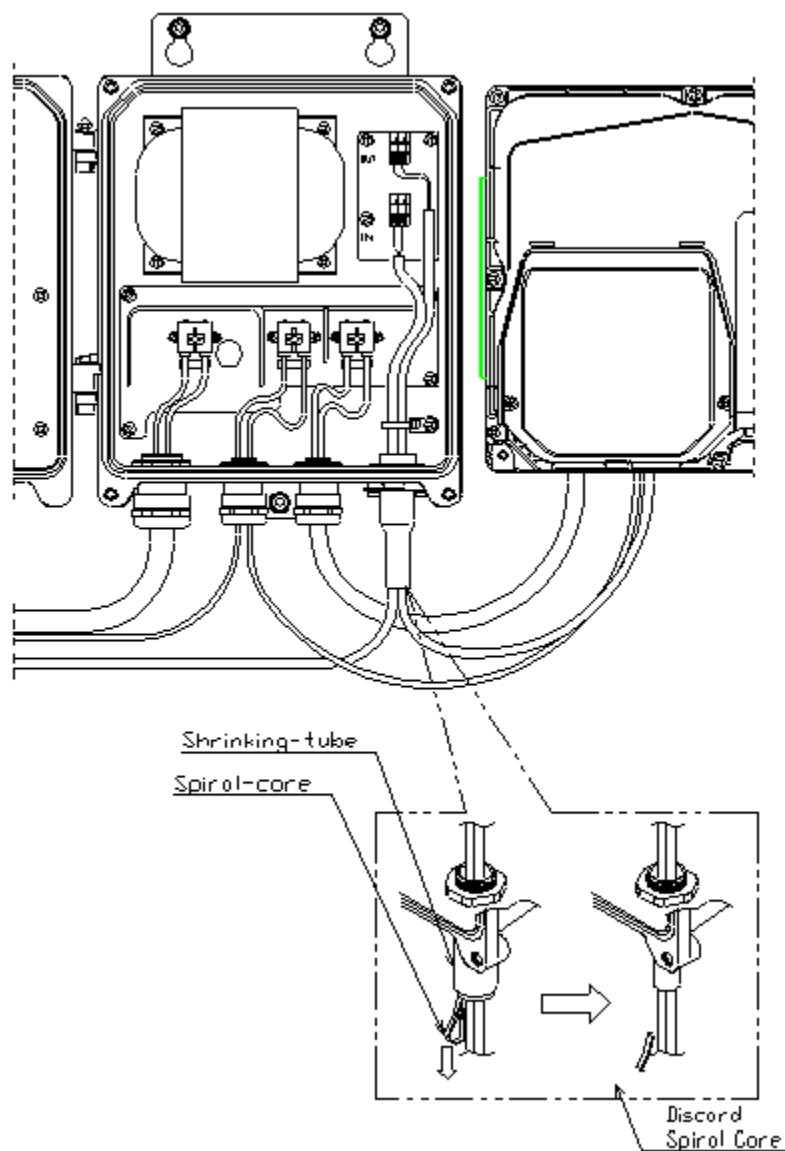

Figure 25: Shrinking the Cables
2. To shrink the cables, put your finger into the loop of the spiral core and pull it, as displayed in Figure 25. Pull it around the cable, making sure that the spiral core will not get tangled up with the cables. When the spiral core is pulled out a contraction tube sticks fast around the cables.